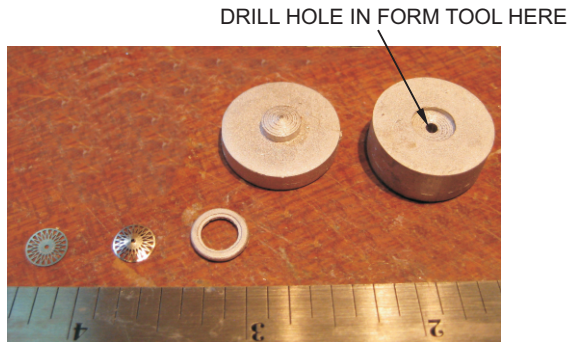

Figure 1
- A Drill a 1/16"/1.5mm diameter hole through the centre of the female form tool as shown in Figure 1 below. This is to let you push the disc of spokes out of the form tool after they have been formed into a cone.